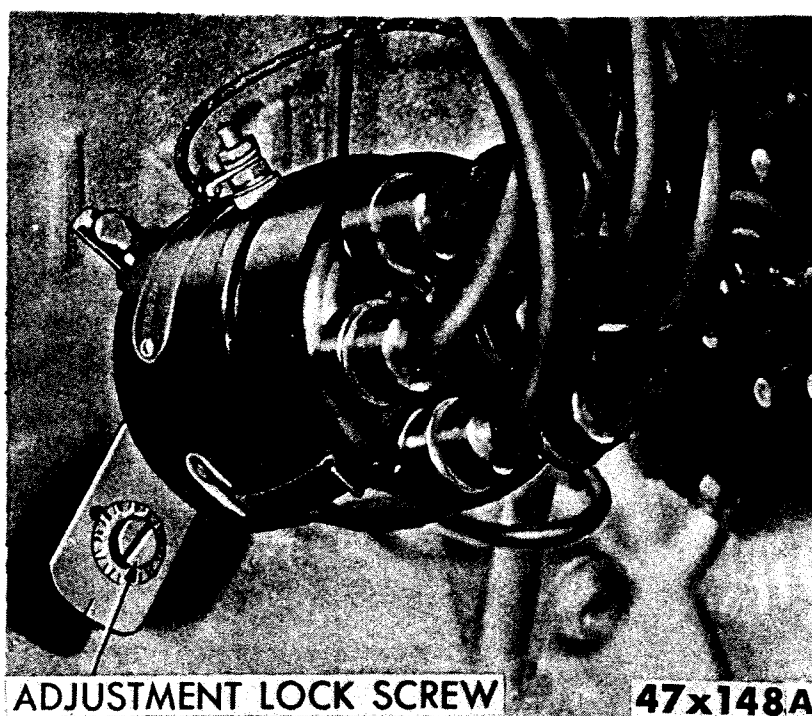

Fig. 57—Ignition Timing Adjustment (Typical)
- (1) Disconnect the vacuum line at the distributor (on units so equipped).
- (2) Connect the secondary lead of the Power Timing Light to the Number 1 spark plug, the red primary lead to the positive terminal of the battery and the black primary lead to the negative battery terminal.
- (3) Use chalk to mark the desired degree line on the vibration damper to provide better visibility when the degree mark lines up with the timing pointer.
- (4) Start engine and set idle to 475-500 rpm.
- (5) Using the timing light to observe the position of the timing mark on the crankshaft pulley; as the timing mark and pointer are in alignment.
- (6) Loosen distributor clamp screw (Fig. 57) and rotate distributor housing so that specified timing mark and pointer are in alignment. (Moving distributor housing against shaft rotation advances timing, and with shaft rotation retards timing.)
- (7) Tighten distributor clamp screw after timing has been set and